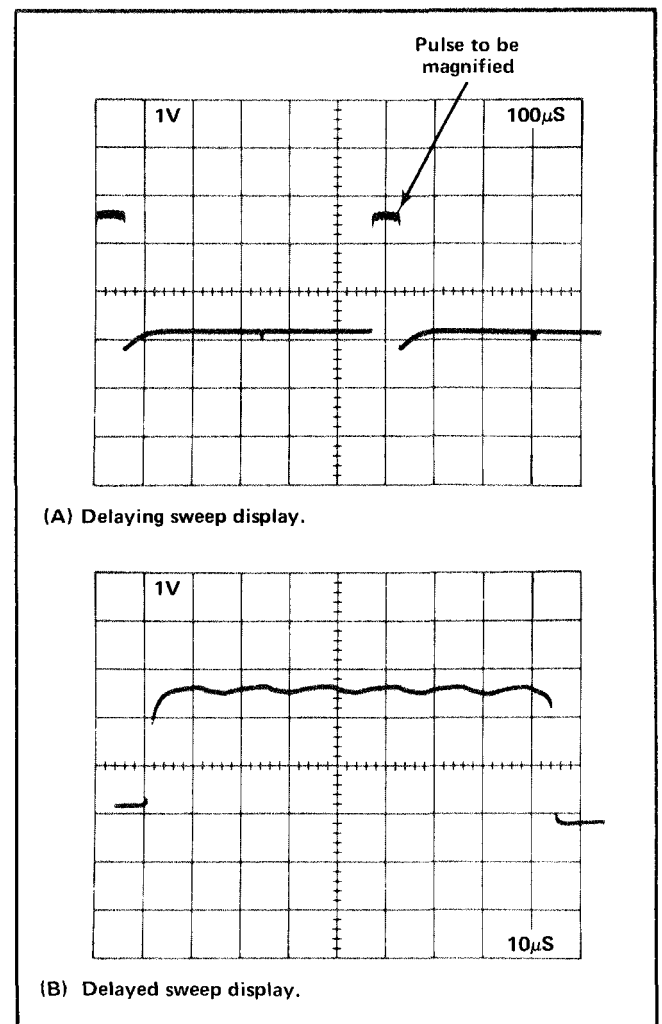

Fig. 1-16. Using delayed sweep for magnification.
**Example.** The apparent magnification of the display shown in Fig. 1-16 with a TIME/DIV OR DLY TIME switch setting of .1 ms and a DLY'D Time/Division switch setting of 10 microsecond is: